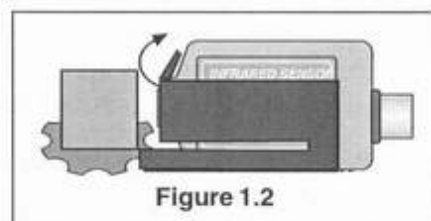

Figure 1.2
6. To take a measurement, place the Infrared Sensor approximately 3 cm from the cube's surface (such that the metal support on the shutter is barely touching the cube) and use your index finger to press the metal shutter inward (see Figure 1.2). The hole on the shutter will align over the sensor opening. (Note: The outside edge of the bottom plate of the shutter should rest against the side of the cube.)